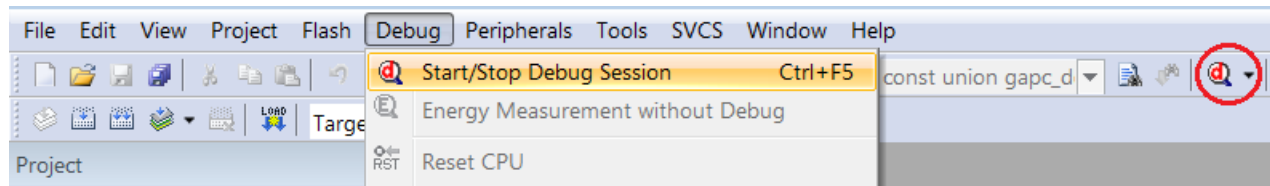

Figure 30. Start/Stop Debug Session Icon
2. Select **Debug > Start/Stop Debug Session** or click the icon shown in the figure "Start/Stop Debug Session Icon" (Figure 30).